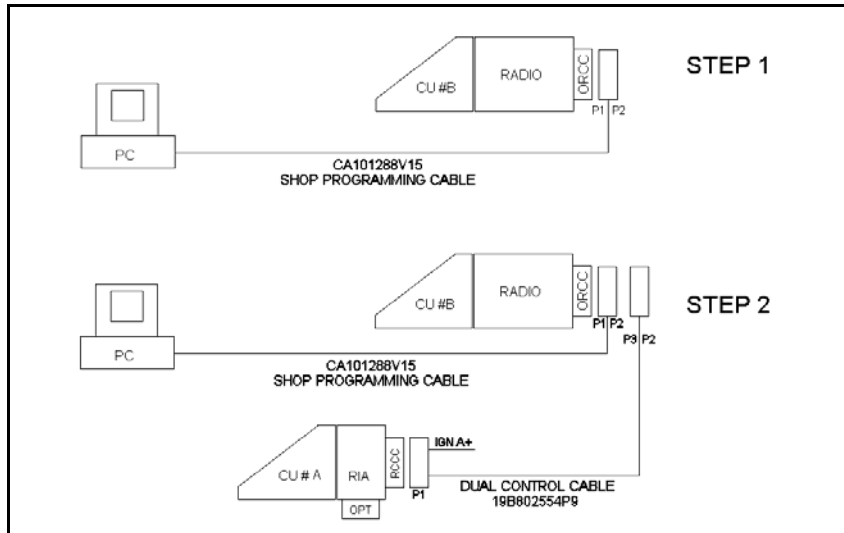

Figure 10-2: M7100^{IP} Dual Control Unit PC Programming Configuration
1. Connect the M7100^{IP} Front Mount Radio with ProGrammer, as shown in Figure 10-2, Step 1. Program the radio with the following control configurations:
2. Connect the Front Mount Radio and the Auxiliary Control Unit together with ProGrammer, as shown in Figure 10-2, Step 2. Program this configuration with the following files: